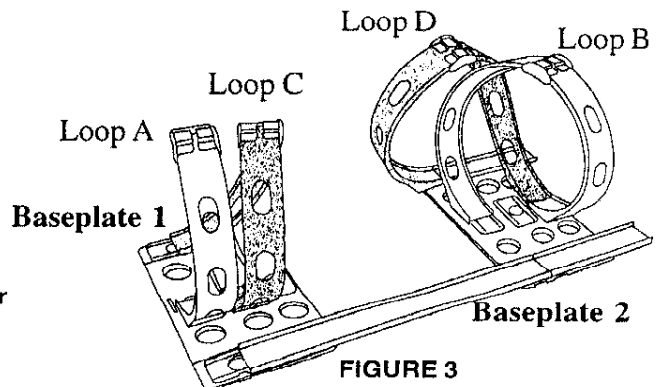

FIGURE 3
- Locate the remaining two loops, Loops C and D. Attach **Loop C** by sliding one end halfway over the middle built in track joiner on **baseplate 1**. Be sure the loop meets flush with LOOP A and that there are no gaps. Now twist the other half of the loop around and slide it halfway over the built in track joiner located at the end opposite the 16.5" flex track on baseplate 1. Refer to **FIGURE 3**.
- Attach **Loop D** to **baseplate 2** as shown in figure 3 by sliding one half of the loop over the built in track joiner to meet LOOP B. Twisting the opposite end around, slide it over the built in track joiner to meet the 7" straight track. Be sure the tracks meet flush and that there are no gaps.